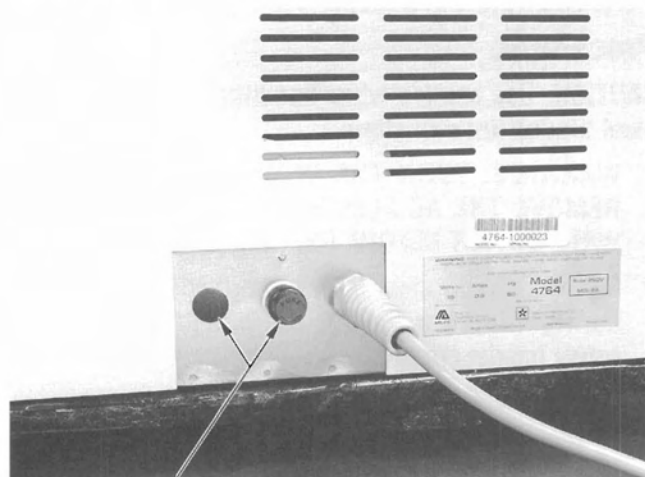

Figure 8-1
1. The Coverslipper contains one fuse in Model 4764 (115 VAC) and two fuses in Model 4765 (220 and optional 240 VAC) that may need to be replaced. Figure 8-1 shows the location of the instrument line fuse(s).